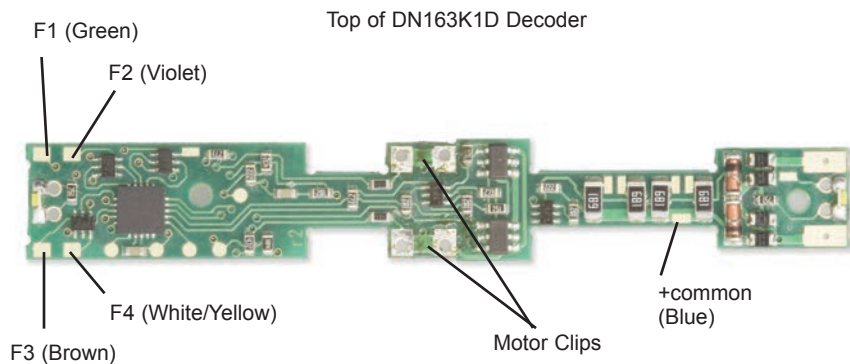

Figure 5: Connecting More Functions to Your DN163K1D Decoder
5. Replace the light board retainer as shown in Figure 5. The light board retainer has two plastic tabs that keep the motor tabs firmly pressed onto the motor contacts and insure the motor tabs do not short on the frame.
6. Replace the locomotive shell. Digitrax decoders are set up with configuration variable (CV) default values so you can run your locomotive right away using address 03.